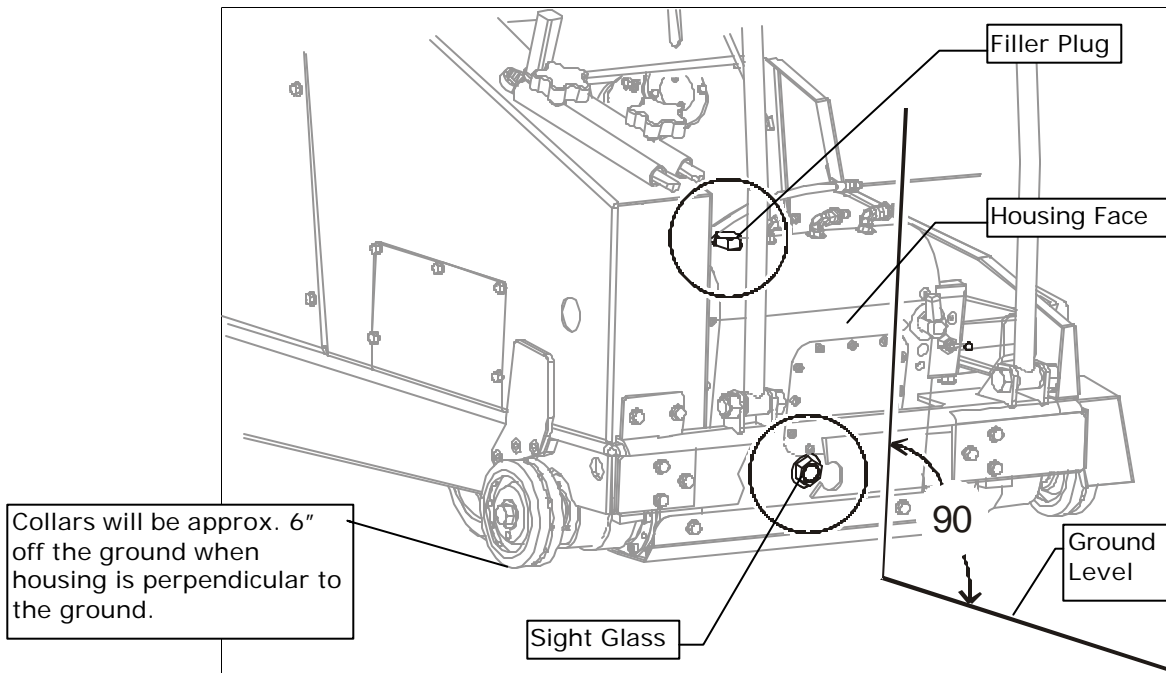

Fig. 46 — Filling the Hydraulic System
2. Loosen and tighten the Alignment Jackscrew nuts to move the Transaxle — and thus the wheels — in the appropriate direction to achieve the desired alignment distance (see Fig.46).